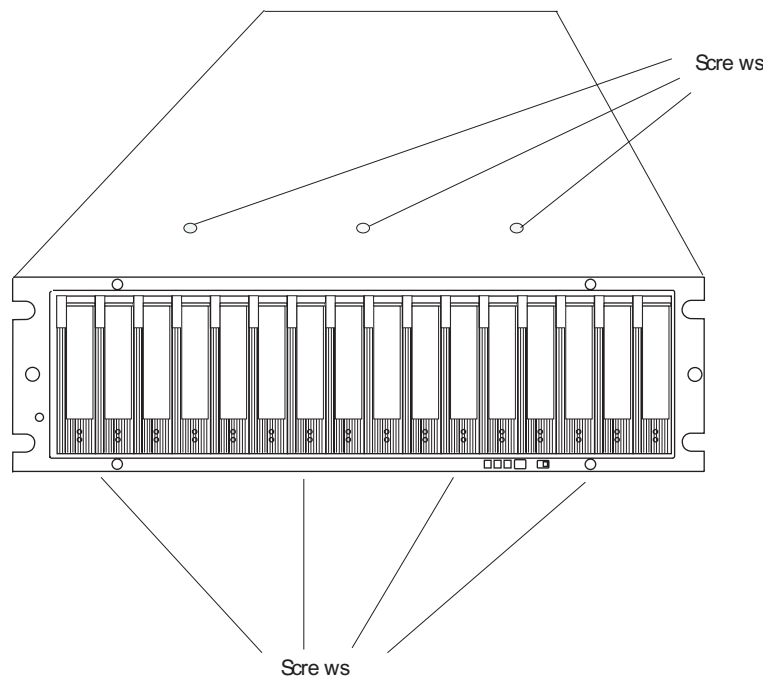

Figure 89. Screws holding the top and bottom sides of the chassis to the cage frame
Pull the chassis outward from the front of the rack and remove from the rack. Place it on a level surface. Look for a row of three Phillips screws on top of the chassis and a row of four Phillips screws on the bottom of the chassis, as shown in Figure 89. Remove the seven Phillips screws using the #1 Phillips screwdriver. Save these screws.
17. Install the seven Phillips screws (three on top and four on bottom) that hold the front cage frame to the EXP810 chassis that you removed in step 12 on page 154, as shown in Figure 89 on page 155.